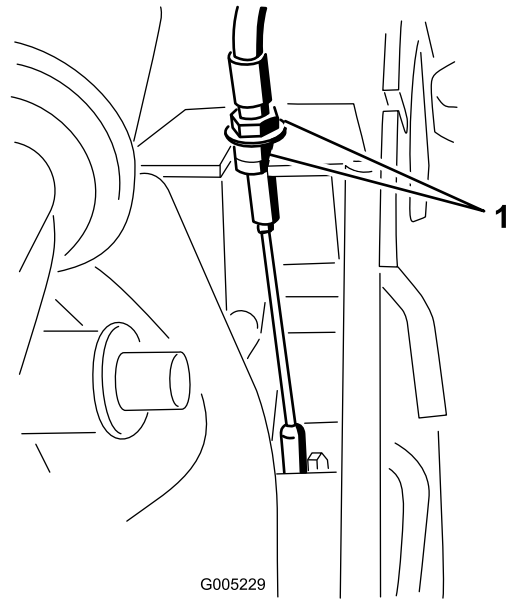

Figure 25
1. If the machine does not self-propel, rotate the transmission cable nuts clockwise 1/2 turn to tighten the belt (Figure 25).
2. If the machine creeps forward, rotate the transmission cable nuts 1/2 turn counterclockwise to loosen the belt (Figure 25).